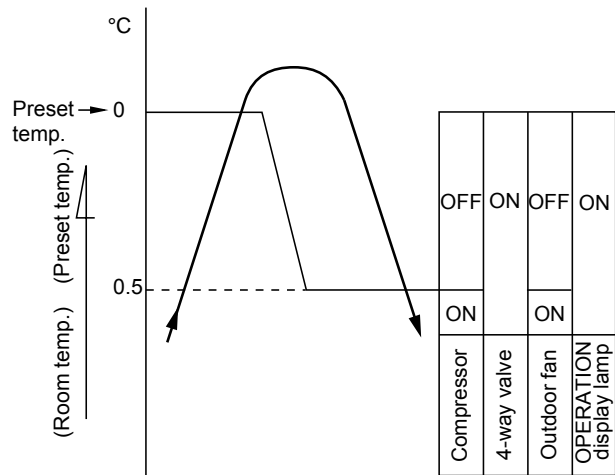

Fig. 7-2-6
- (1) The compressor, 4-way valve, outdoor fan and operation display lamp are controlled as shown in Fig. 7-2-6.